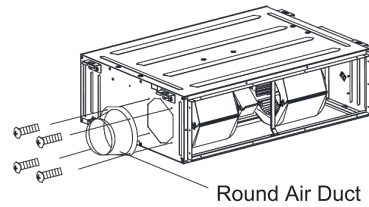

Fig 4.4.9
2. Install the round flange so that the fresh air duct can be connected as Fig 4.4.9.